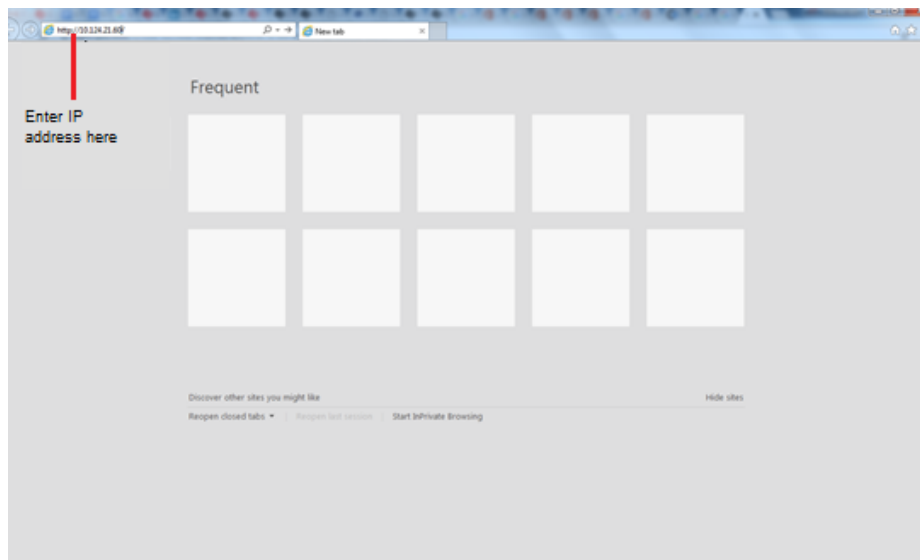

Figure 7. IP Address
- Type the IP address of the device on Windows Internet Explorer® as `http://<IP address>/` and press the *Enter* key (see Figure 7).